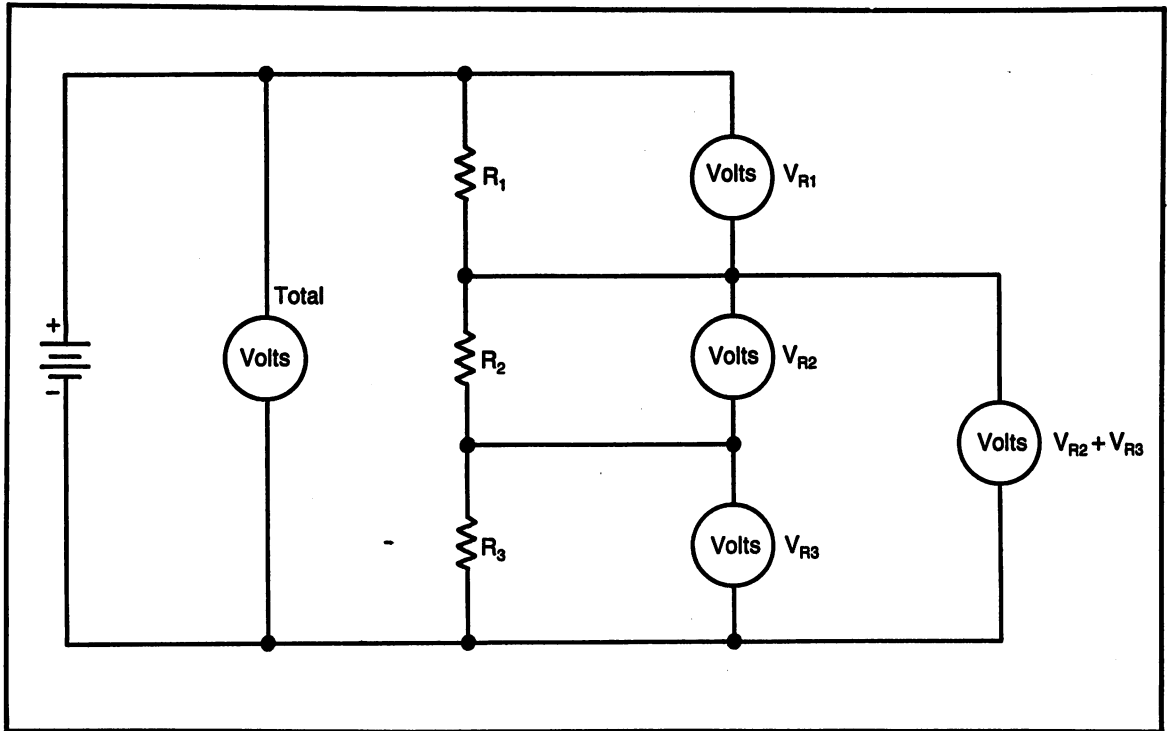

Fig. 9-21. A series circuit showing the voltmeter connections for the various voltage measurements.
- (14) Use the nominal value of the resistors, the calculated value of total current and the applied voltage to calculate the voltage across each resistor. Using Fig. 9-21 as a reference, move the voltmeter to measure the voltage across each resistor.
- (15) In Fig. 9-21, the voltage measurements across the resistors can all be made with reference to negative. When voltages are measured in reference to negative, the negative lead of the voltmeter remains attached to the negative of the power supply and the positive lead is moved to place the meter across the resistors.